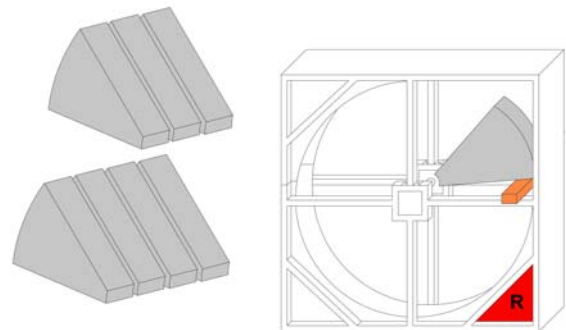

Figure 8
- It is expedient to use a timber beam to mount the segments (Figure 8)